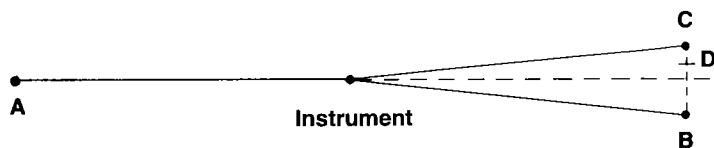

Figure 20
- b. Sight a point A located 200 to 400 feet in front of the instrument (see Figure 20).